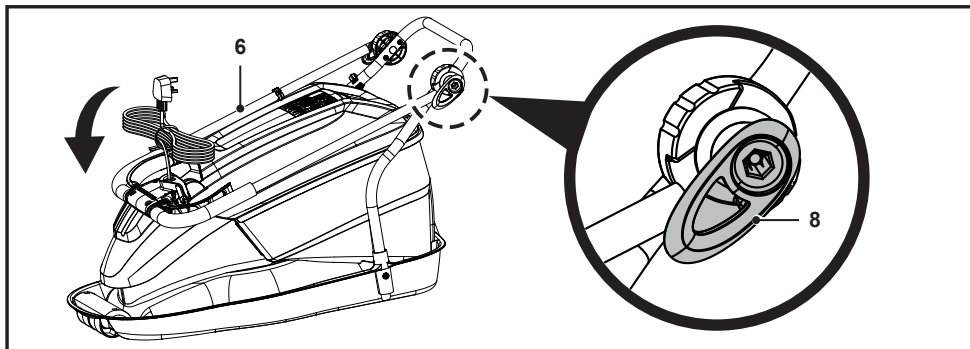

Fig. 15
- Fold the upper handle (6) for storage (Fig. 15):